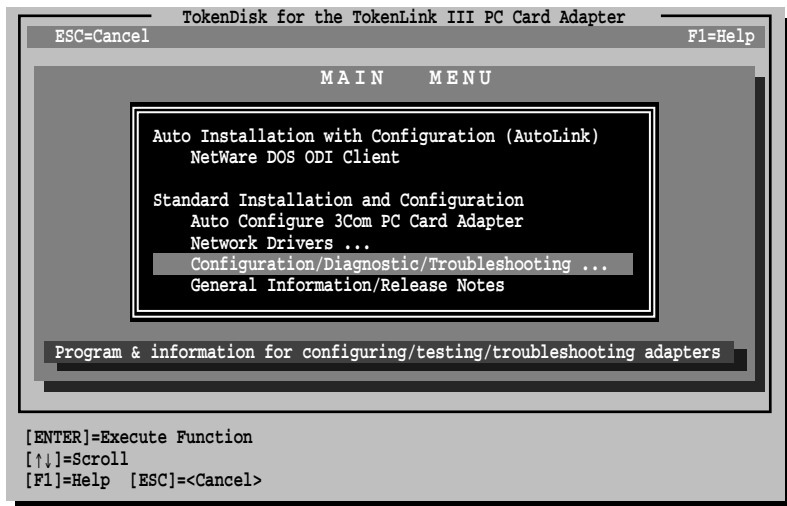

Figure 6-2 Main Menu with Configuration/Diagnostic/Troubleshooting Selected
- 1 Select the option **Configuration/Diagnostic/Troubleshooting**, as shown in Figure 6-2.